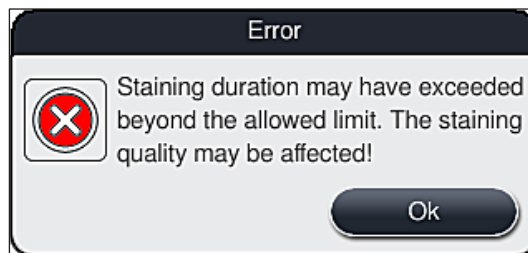

Fig. 105
1. After confirming this information message, the user is informed that the staining periods may have been exceeded, i.e. individual racks have already spent too much time in a reagent under certain circumstances or in a critical station, which can impede the staining quality. Confirm this information message (→ "Fig. 105") by pressing the **OK** button to resume.